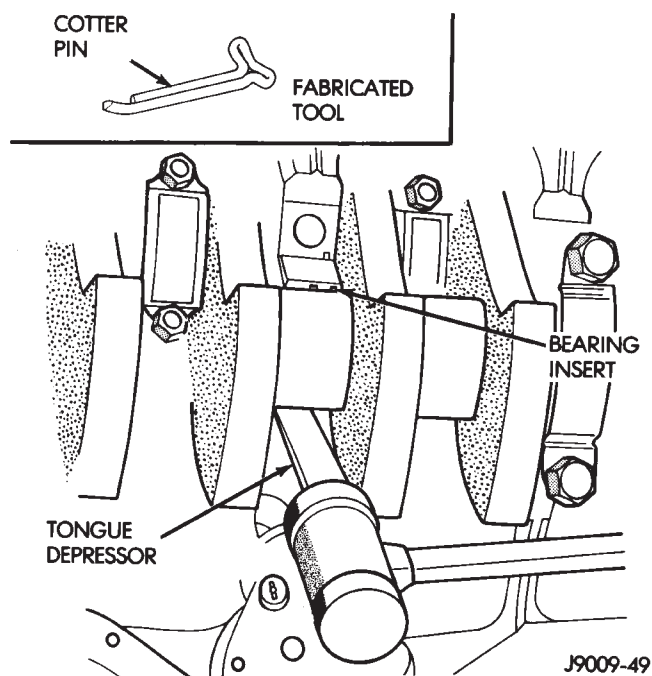

Fig. 54 Removing Upper Inserts
(7) Remove the upper insert by **LOOSENING (DO NOT REMOVE)** all of the other bearing caps. Now insert a small cotter pin tool in the crankshaft journal oil hole. Bend the cotter pin as illustrated to fabricate the tool (Fig. 54). With the cotter pin tool in place, rotate the crankshaft so that the upper bearing insert will rotate in the direction of its locking tab. Because there is no hole in the No.3 main journal, use a tongue depressor or similar soft-faced tool to remove the bearing insert (Fig. 54). After moving the insert approximately 25 mm (1 inch), it can be removed by applying pressure under the tab.
(8) Using the same procedure described above, remove the remaining bearing inserts one at a time for inspection.